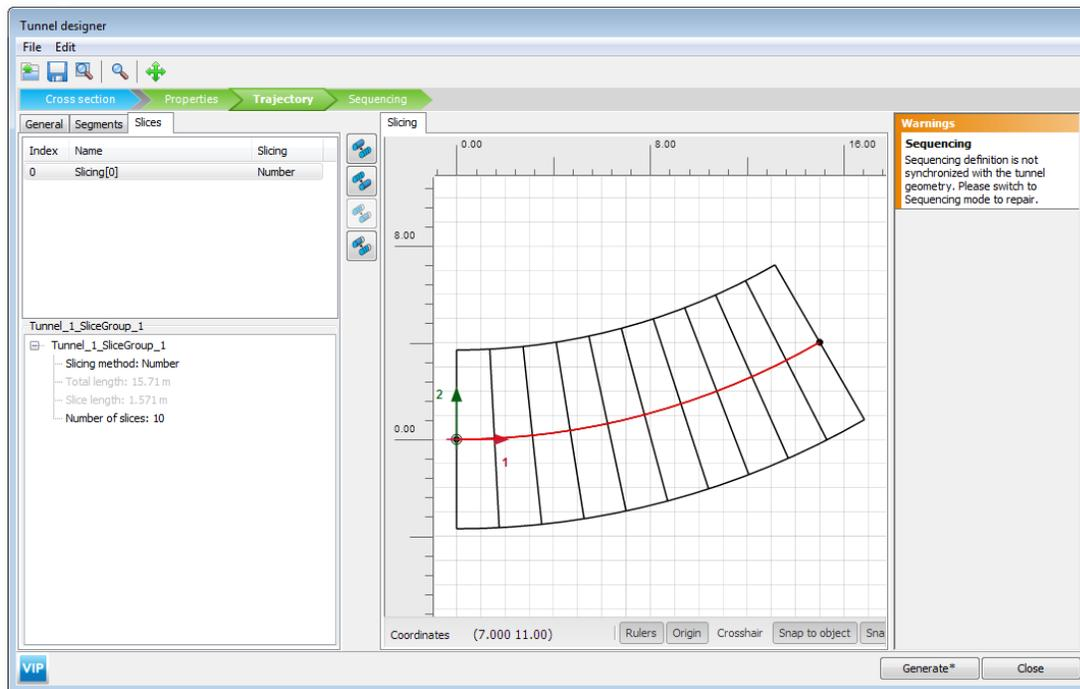

Figure 111: Definition of Segments in a trajectory
**Definition of segments:** The segments of a cross section can be defined in the *Segments* tab of the *Trajectory* tabsheet (Figure 111: Definition of Segments in a trajectory (on page 152)).